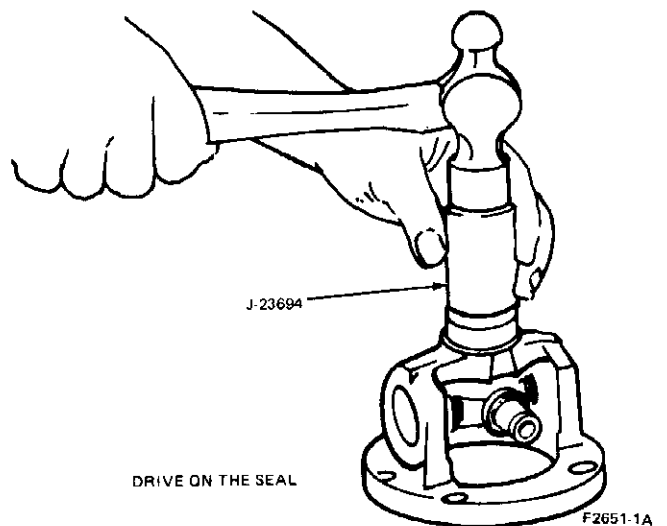

FIG. 20 Installing Seal
2. Lubricate the seal lip and install the seal flush into the flange yoke, using tool, Part No. J-23694 as shown in (Fig. 20). The sealing lip should tip inward.